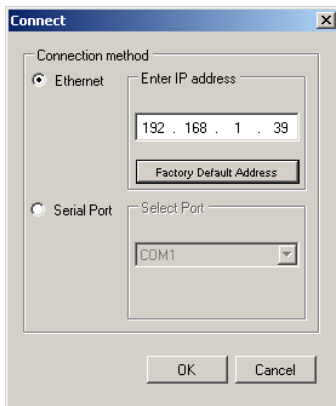

Figure 9: The Connection Method – via the Ethernet
- Ethernet (Figure 9), and enter the IP address